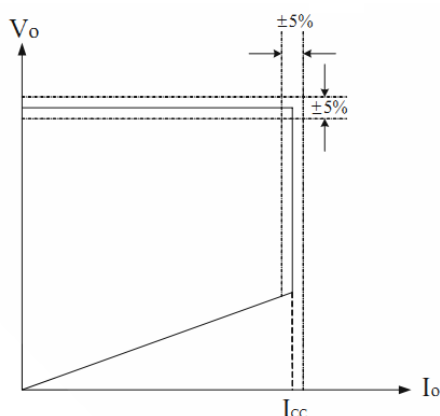

Fig.1. Typical CC/CV Curve
Proprietary Constant Voltage (CV) and Constant Current (CC) control is integrated as shown in Fig.1. In CC control, the current and output power setting can be adjusted externally by the sense resistor R_s at CS pin. In CV control, multi-mode operations are utilized to achieve high performance and high efficiency.